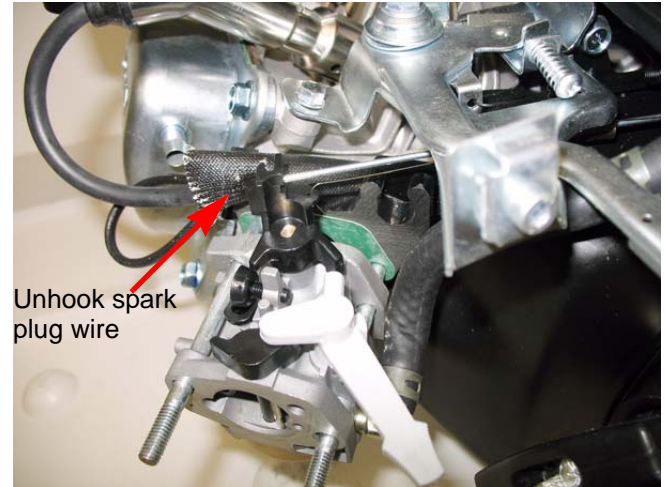

Figure 7.13
- Unhook the spark plug wire from the clip in the carburetor insulator. See Figure 7.13.